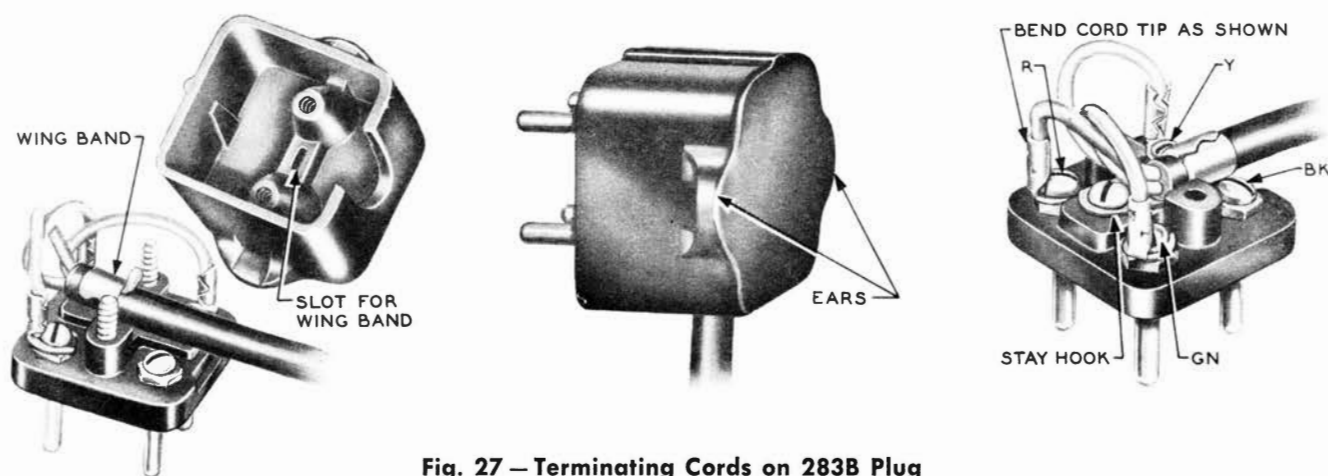

Fig. 27 — Terminating Cords on 283B Plug
9.02 For portable telephone sets requiring two or four conductors, use the 283B plug. This plug will accommodate cords equipped with wing-type stay bands as well as stay hooks. The cover has two projecting ears that provide a more positive grip when removing plug from associated jack (see Fig. 27).